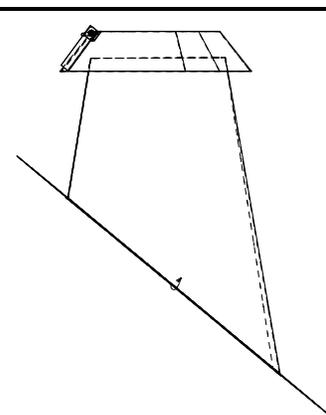

FIGURE 23 **STORM COLLAR POSITION**
8. Place the storm collar over the chimney and flashing (see Figure 23). Seal the collar to the chimney with silicone (high temperature not required).